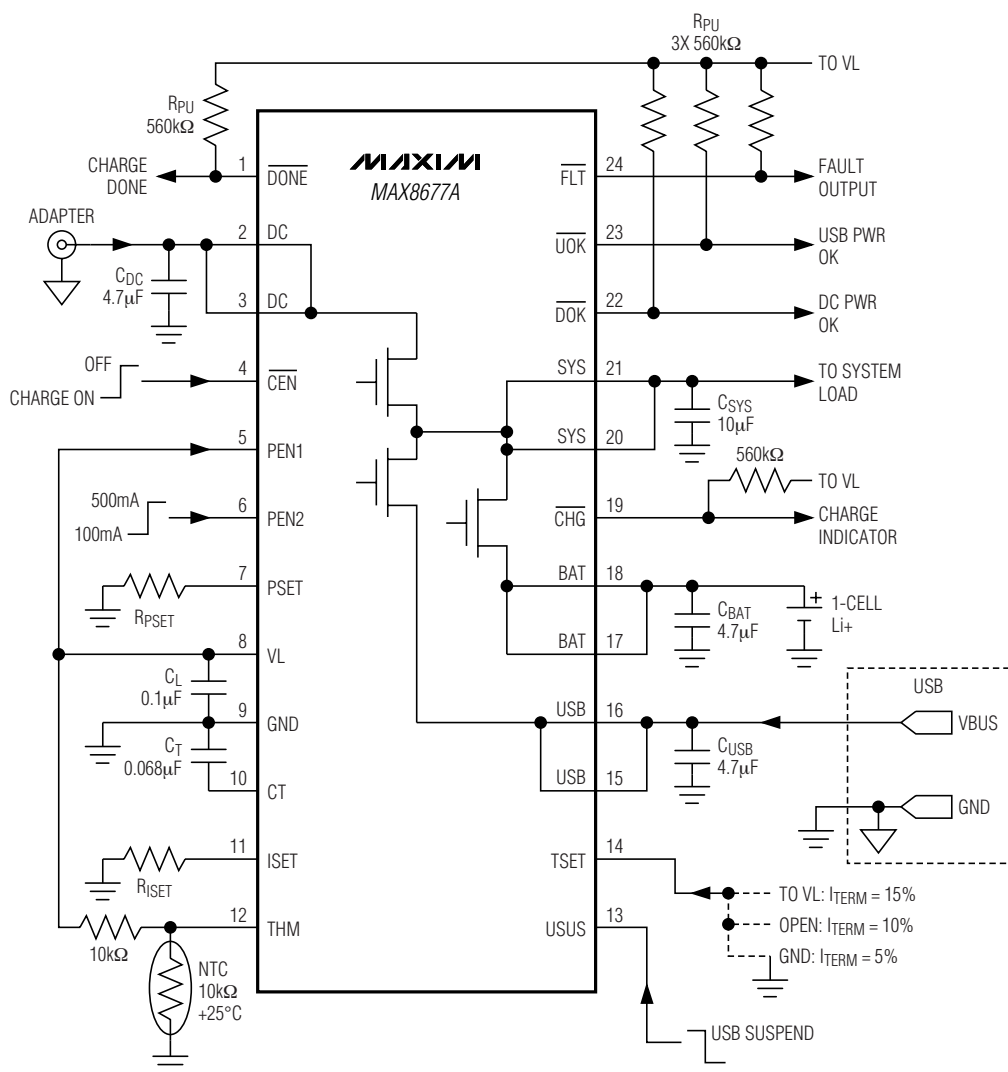

Figure 2. Typical Application Circuit Using Separate DC and USB Connectors
for two-input or single-input operation. Figure 2 is the typical application circuit using separate DC and USB connectors. Figure 3 is the typical application circuit using a Mini 5-style connector or other DC/USB common connector.
**Table 1. External Components List for Figures 2 and 3**
| COMPONENT(FIGURES 2, 3) | FUNCTION                                 | PART                                                           |